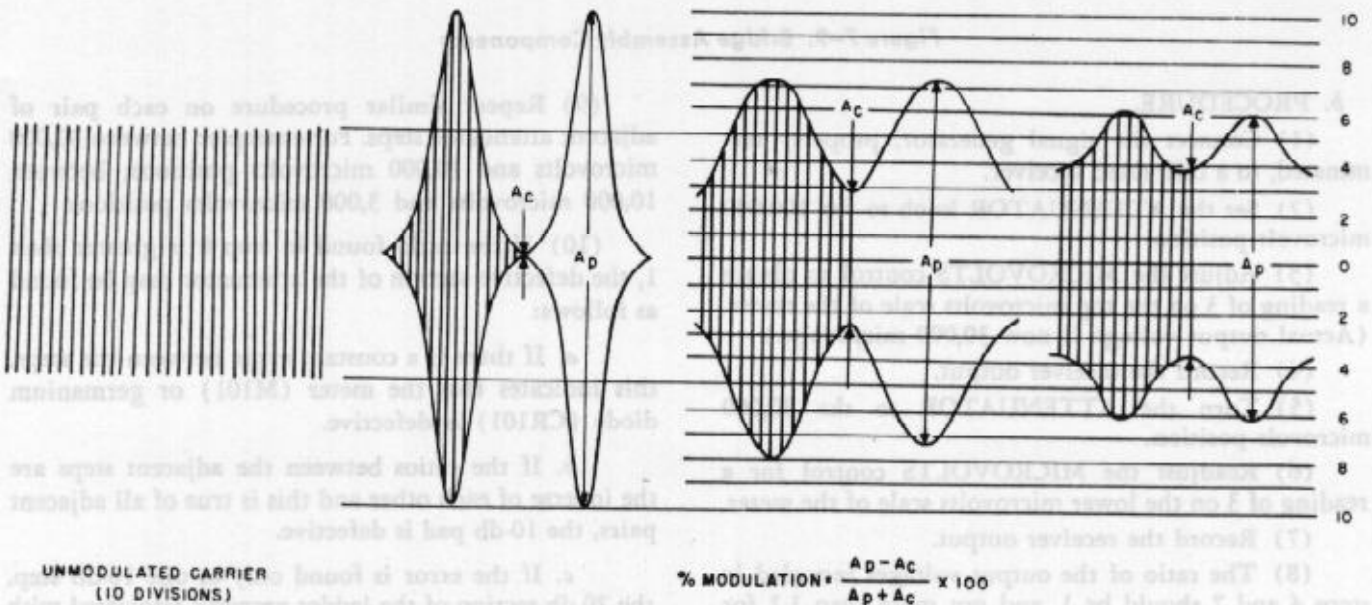

Figure 7-11. Percentage Modulation Chart
- (1) Remove the signal generator from its case. See paragraph 7.
- (2) Remove the RF shield assembly. See paragraph 8.
- (3) Turn FUNCTION SWITCH to CW position.
- (4) Adjust carrier output to 100,000 microvolts.
- (5) Turn FUNCTION SWITCH to INT MOD 400 cycles position.
- (6) Turn % MOD control fully counterclockwise.
- (7) Connect the RF OUTPUT jack (J102) to the vertical input terminals of an oscilloscope.
- (8) Place a graduated celluloid screen over the face of the oscilloscope.
- (9) Adjust vertical gain of oscilloscope for 50 percent coverage on screen. Refer to figure 7-11, unmodulated carrier.
(10) Turn the % MOD control (E104) until front panel meter reads 50 percent modulation.
(11) Turn the MOD METER ADJ control (R158) until oscilloscope pattern indicates 50 percent modulation. See figure 7-11, 50 PERCENT MODULATION.
(12) Turn the % MOD control (E104) until front panel meter reads 30 percent modulation.
(13) Observe oscilloscope pattern. It should appear as drawn in figure 7-11, 30 PERCENT MODULATION.
(14) If necessary readjust (R158) MOD METER ADJ control until 30 and 50 percent readings are both as accurate as possible, favoring the 30 percent adjustment since this value is used most often.
| 4. MODULATION METERING CIRCUIT | <p>a. If the test in 3 a. does not produce meter deflection, set the signal generator to 100 kilocycles and connect an oscilloscope to the HIGH RF OUT jack (J101). Turn the FUNCTION SWITCH (E103) to CW and set the meter (M101) to the red arc of the meter scale with the SET RF OUTPUT control (E101). Apply external modulation as described in paragraph 3 c. If a modulation pattern (fig. 7-11) appears on the oscilloscope, the modulation metering circuit is defective. See table 7-4, paragraph 7. If a modulation pattern cannot be obtained, the modulator stage is defective. See table 7-4, paragraph 6.</p> |